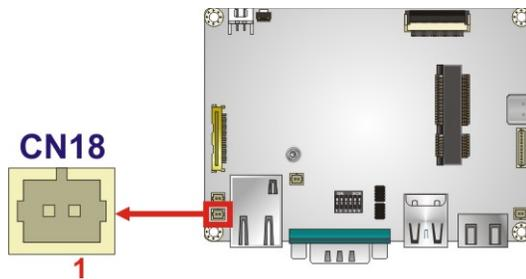

Figure 3-14: Power Key Connector Location
- CN Location:** See **Figure 3-14**